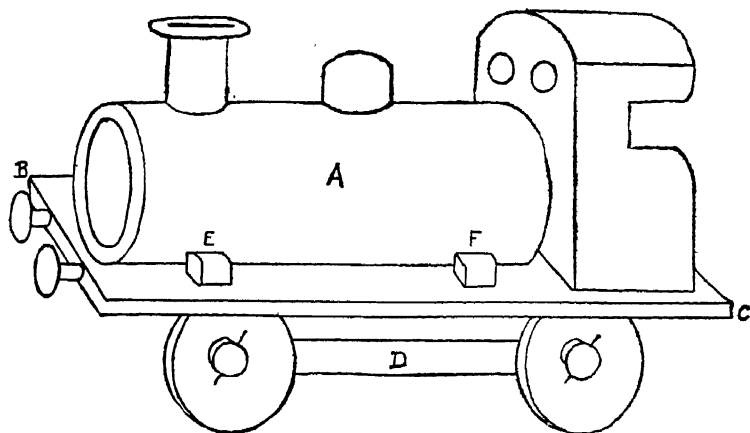

FIG. 230
A Train. (1) *The Engine* (Fig. 230). The body of the engine, A, is a long mantle-box or a piece of old curtain pole, about $4\frac{1}{2}$ inches long. The wooden bottom, B C, is $6\frac{1}{2}$ inches by $2\frac{1}{4}$ inches. A is glued to B C and kept in position by wooden blocks, E and F. The funnel and the dome are made from corks or pieces of round wood; their ends must be slightly concave, so that they may fit securely to A. A ring of cardboard is gummed to the top of the funnel, which may
The cab is made of cardboard, as shown in Fig. 231, and is coloured to match the engine. G K L M is gummed to the back of A (Fig. 230), and its sides are fastened to the footplate by the flanges.
cardboard, coloured black (D in Fig. 230), are glued to the wooden blocks behind the wheels.